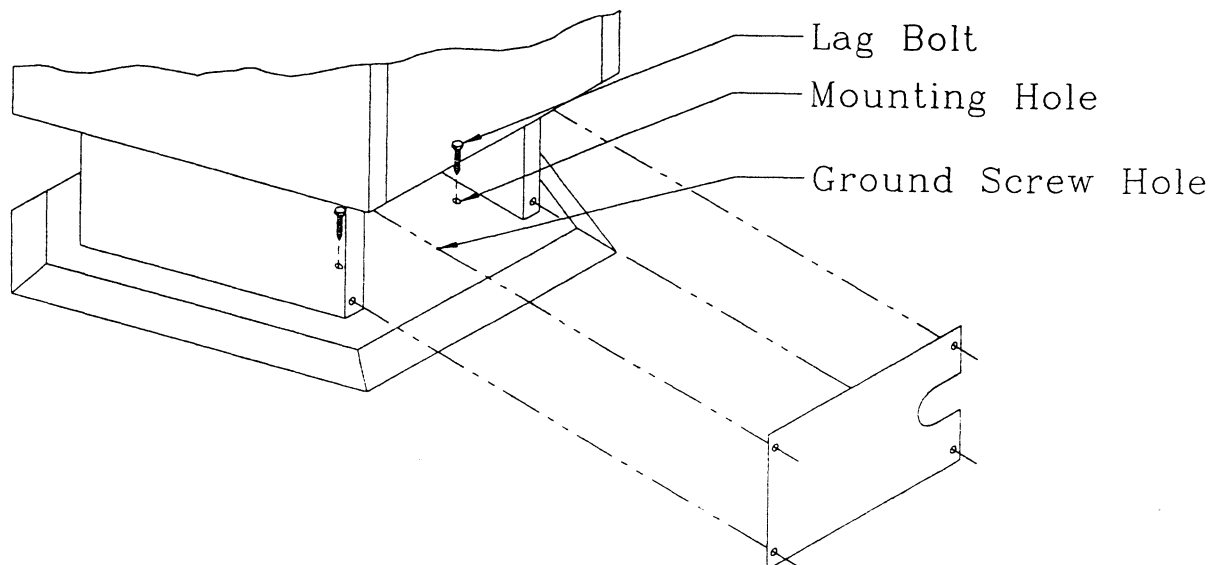

Figure 15
6. The appliance must be grounded to the steel chassis of the home with 8 ga. copper wire using a serrated or star washer to penetrate paint or protective coating and ensure grounding. Secure the wire to the .182" dia hole in the center rear of the pedestal base, see Figure 15.
7. Secure the heater to the floor with the use of two carriage bolts. Locate the heater in the desired position and turn the lag bolts through the two 3/8" holes inside the rear of the pedestal base as shown in Figure 15.